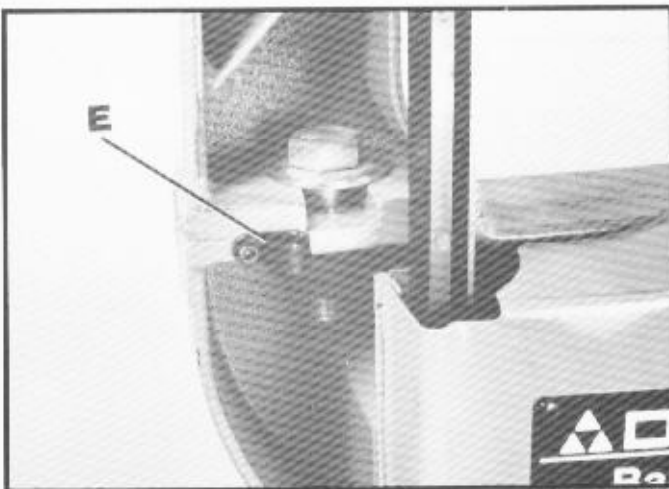

Fig. 9A
6. Remove screw and cable clamp (E) Fig. 9A, from lower arm of band saw.